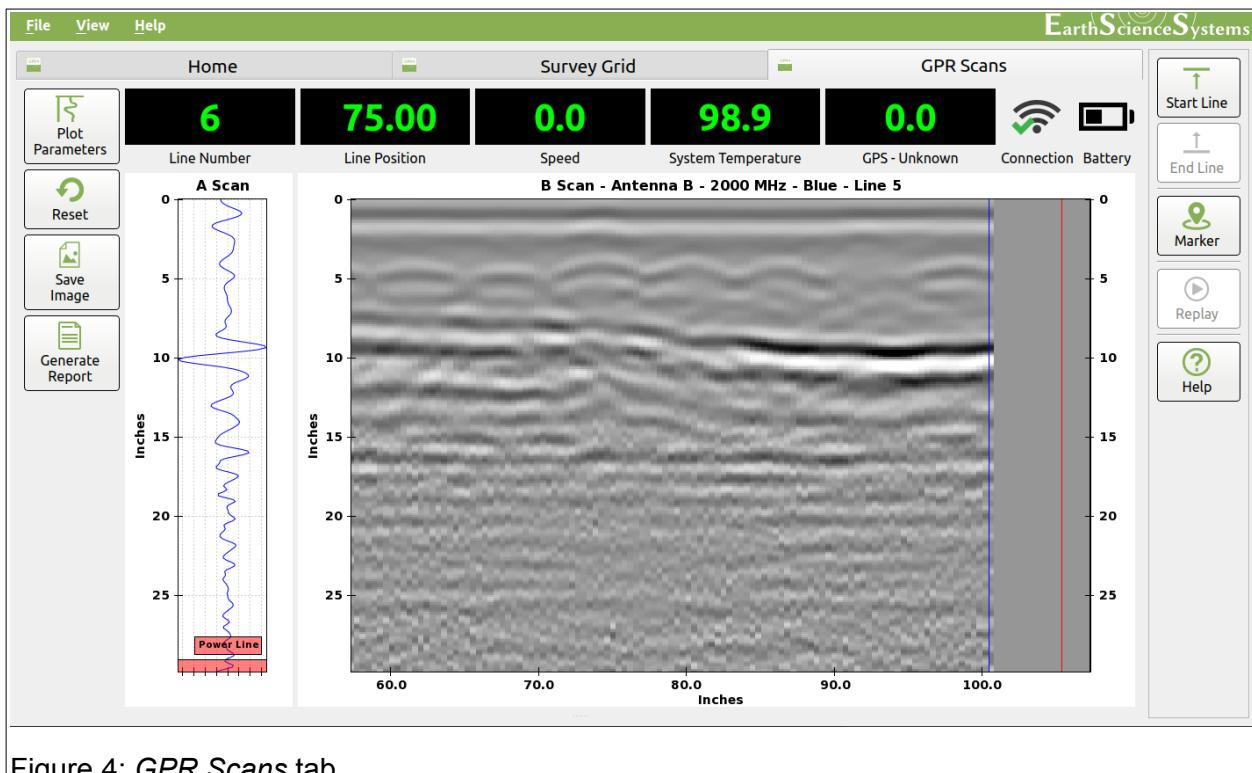

Figure 4: GPR Scans tab.
This tab is displayed (see Figure 4) by clicking the GPR Scans tab. The GPR Scans tab displays A-scan and B-scan plots that are useful for viewing GPR waveforms and ensuring
5. Start the data acquisition program by double tapping Surveyor Pro icon on the desktop. Press the Connect button to connect to the scanner. After a few seconds the program will display the GPR Scans tab and will start updating with data (see Figure 4). The green light on the scanner's power button will flash slowly when it is connected to the acquisition program on the tablet computer.
5. Start the data acquisition program by double tapping the *Surveyor Pro* icon on the desktop. Press the *Connect* button to connect to the scanner. After a few seconds the program will display the *GPR Scans* tab and will start updating with data (see Figure 4). The green light on the scanner’s power button will flash slowly when it is connected to the acquisition program on the tablet computer.